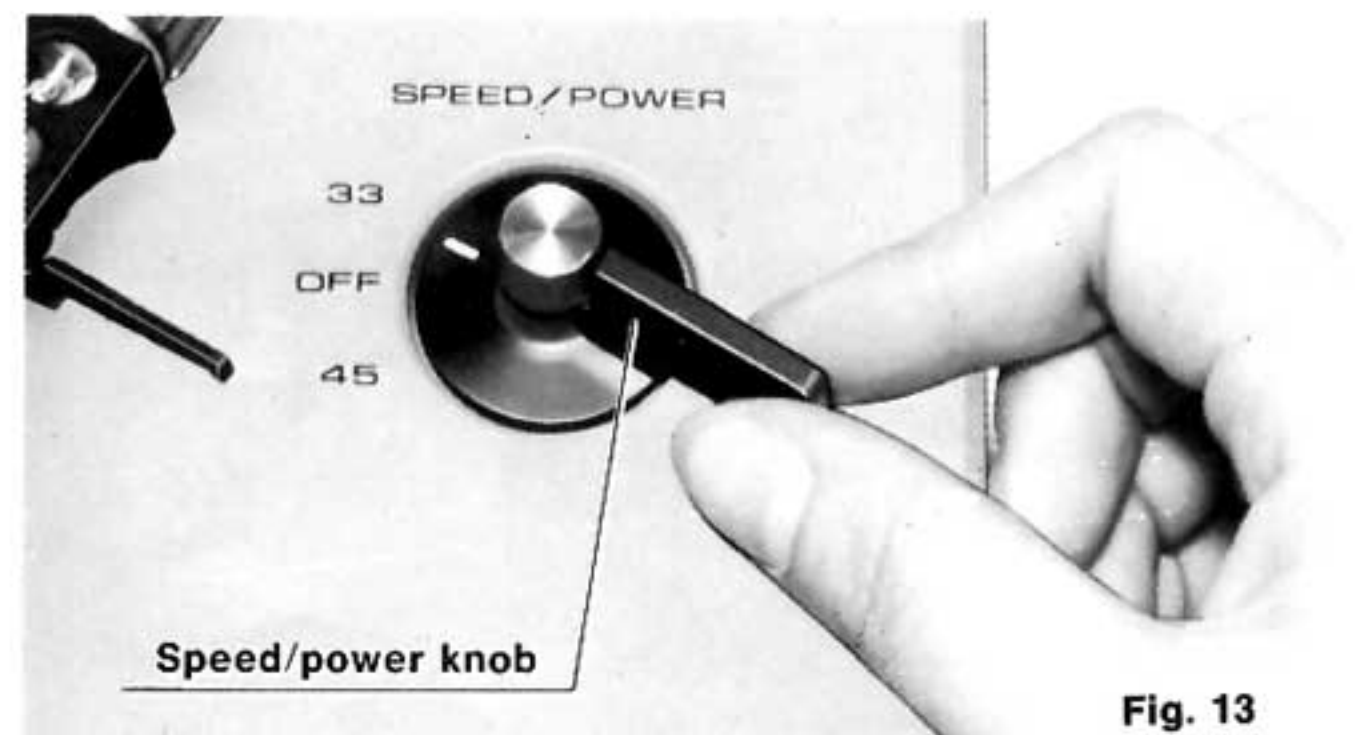

Fig. 13
- 1 Set the speed/power knob to the record speed corresponding to the record which you want to play. (See Fig. 13)